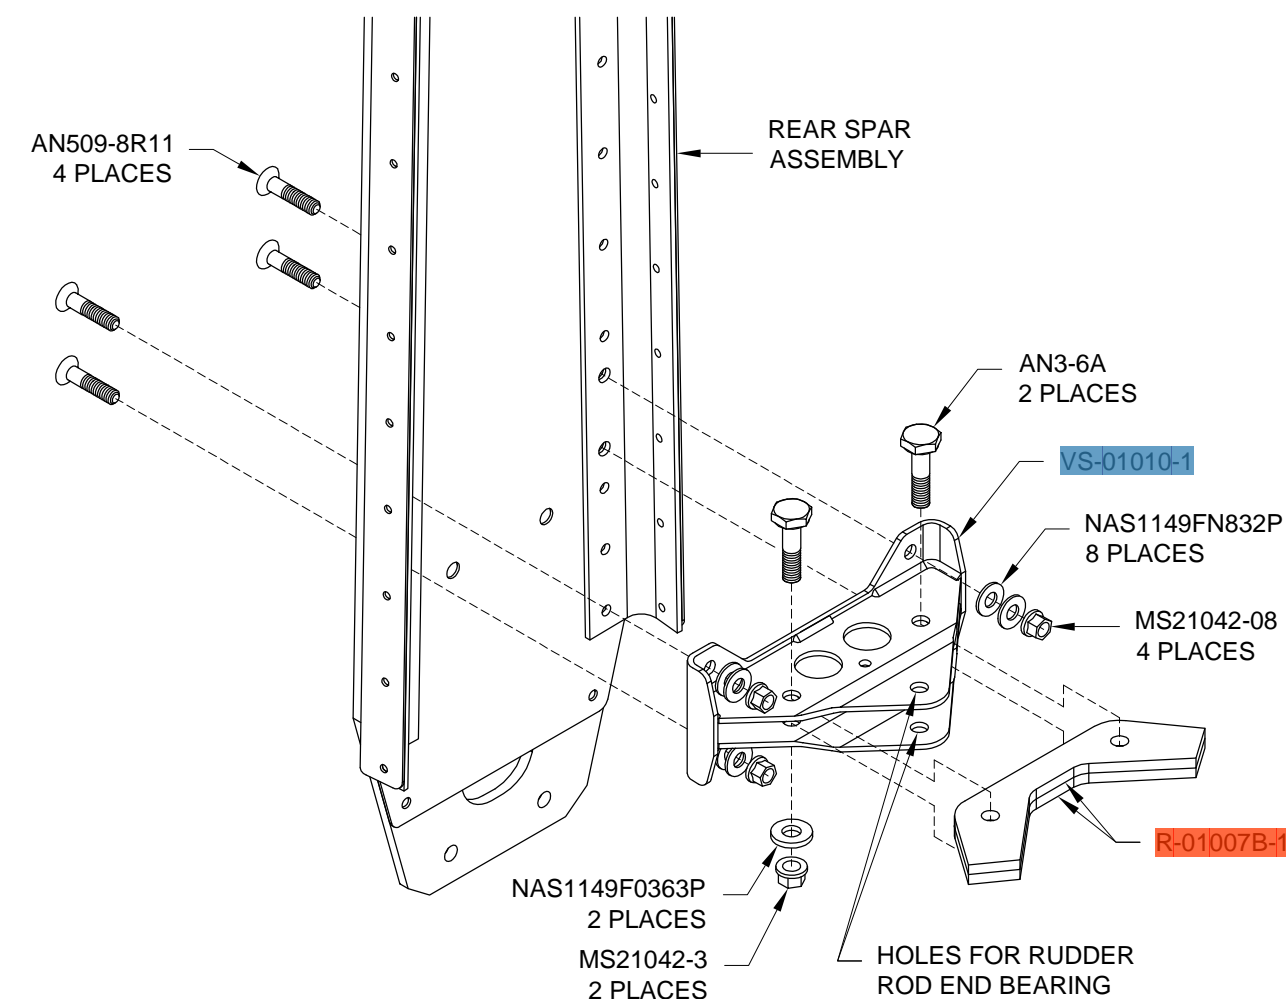

FIGURE 2: ATTACHING THE BOTTOM HINGE BRACKET AND RUDDER STOPS
Step 3: Heavily deburr (and straighten if necessary) the two R-01007B-1 Rudder Stops, then bolt them in the VS-01010-1 Bottom Rudder Hinge Bracket as shown in Figure 2.